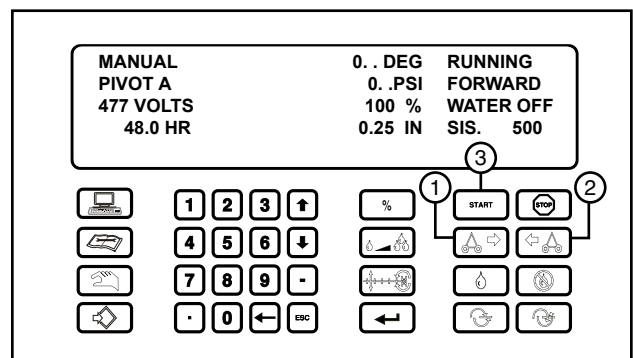

Figure 71-2 1. Reverse Key 2. Forward Key 3. Start Key
11. Select the direction of movement for the span to pivot. See Figure 71-2.
12. Press  to start the machine in the pivot mode. See Figure 71-2.